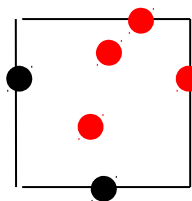

Figure 2. Count cells (red) inside and on 2 out of 4 sides in each square.
4. Count the cells in square number 1 - 4 (and 5 if necessary) using a manual counter. The cells inside a square and on 2 of 4 sides should be counted (figure 2).